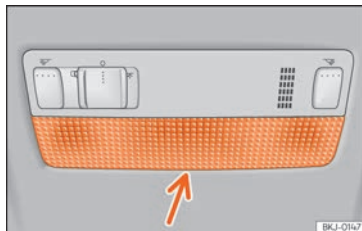

Fig. 176 Front reading light.
- Insert a fine screwdriver between the casing and the glass >>> **Fig. 176**.